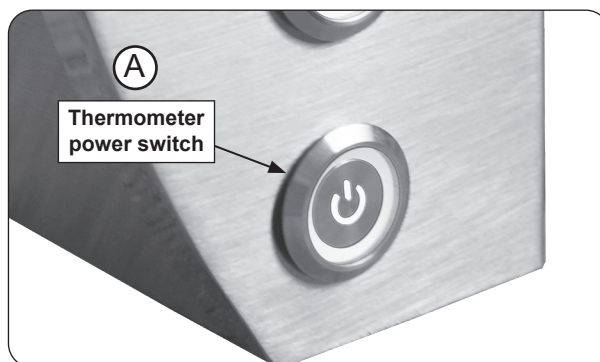

Fig. 35-1 Press thermometer power switch
2. Turn on the gas at its source. Then press the thermometer power switch (see Fig. 35-1, A). The digital controls will illuminate.
To shut off the unit, press the thermometer power switch power switch (see Fig. 35-1).